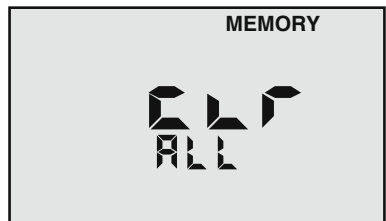

Figure 7
6. To clear **all** records: After pressing , scroll down. “**CLF ALL**” will be displayed (see Figure 7).